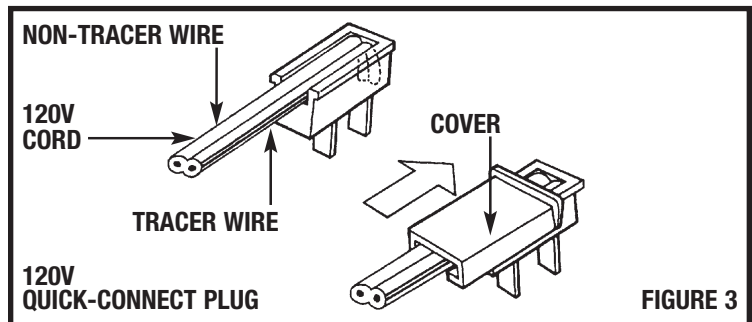

FIGURE 3
1. Cut off end of 120v cord cleanly and evenly. **CAUTION: Do not separate wires. Do not remove or damage insulation (Figure 3)**